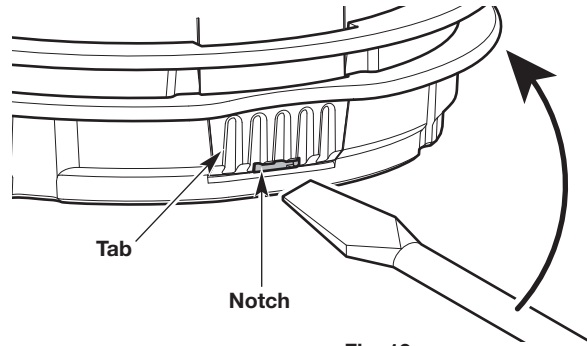

Fig. 19
- a. Insert a flat-head screwdriver into the notch on the tab (Fig. 19).
- b. Gently tilt the screwdriver up and hold it in place (Fig. 19).